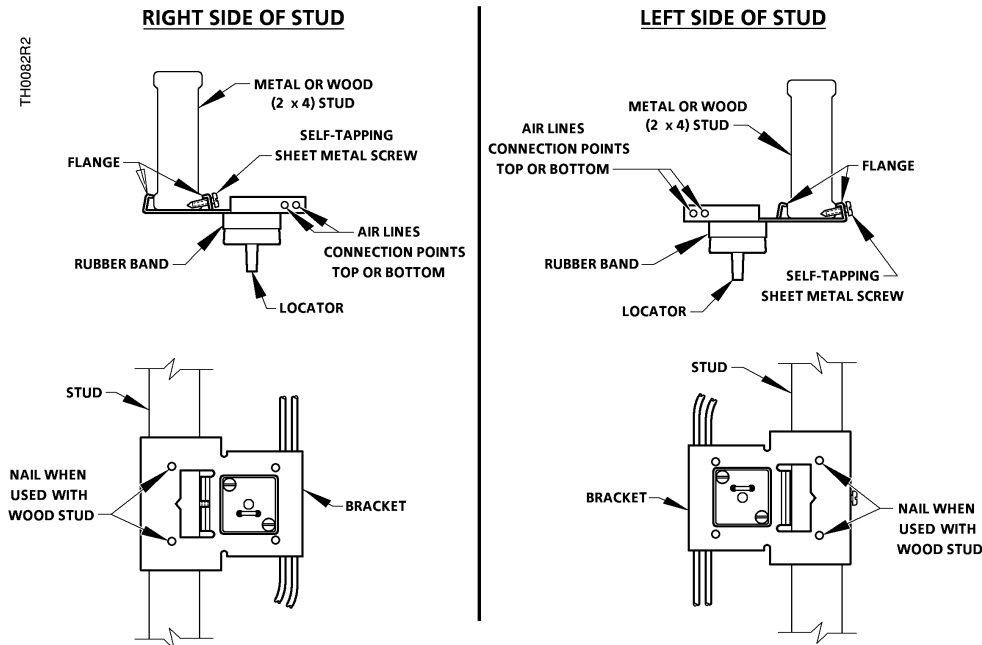

Figure 2. Drywall Mounting Bracket Positions.
The quick mounting bracket (D) provided with this kit permits it to be fastened securely to the stud with a single self-tapping sheet metal screw. As shown in *Figure 2*, the bracket can be mounted on either side of the stud. Ideally, the self-tapping screw should always be driven through the appropriate flange on the bracket so that the screw point bears against or pierces the solid (as opposed to open) side of the stud. However, if the situation requires it, the screw can be driven through the opposite flange and into the lip on the open side of the stud.